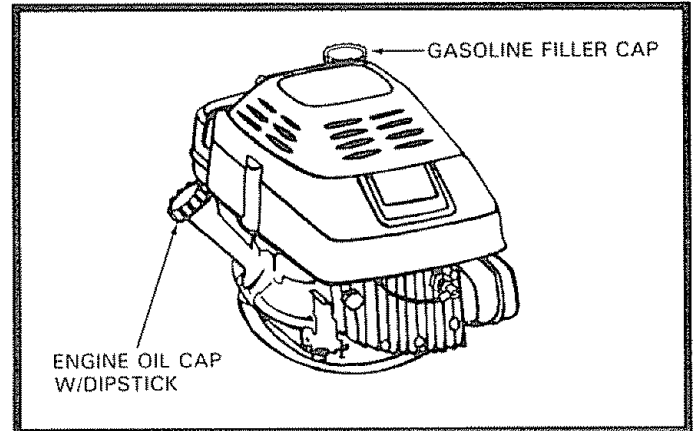

FIG. 5
- Remove engine oil cap with dipstick (See Fig. 5) and fill to the FULL line on the dipstick.
- Use one (1) pint or 0.5 liters of SAE 30 oil or equivalent. SAE 10W 30 oil can also be used. DO NOT use SAE 10W 40 oil.
- Fill gasoline tank with fresh, clean unleaded gasoline. DO NOT USE PREMIUM GASOLINE. BE CAREFUL NOT TO OVERFILL TANK (SEE FIG. 5).